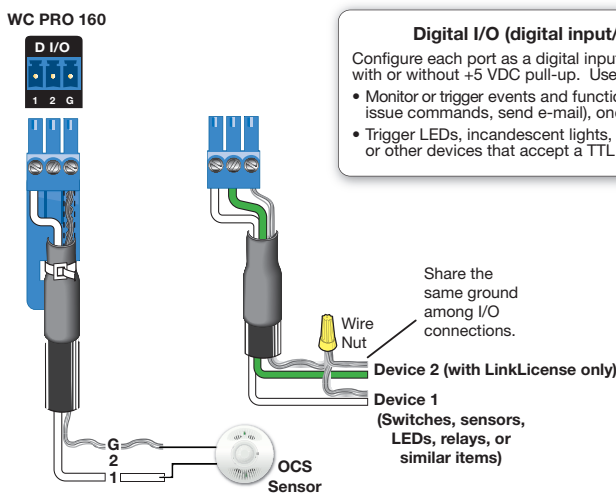

Figure 7. Wiring the Digital I/O Connectors
- Connect a digital input or output device (such as a switch, relay device, or sensor) to pin 1 or 2 and to a G (ground) pin on the D I/O connector (see figure 7).